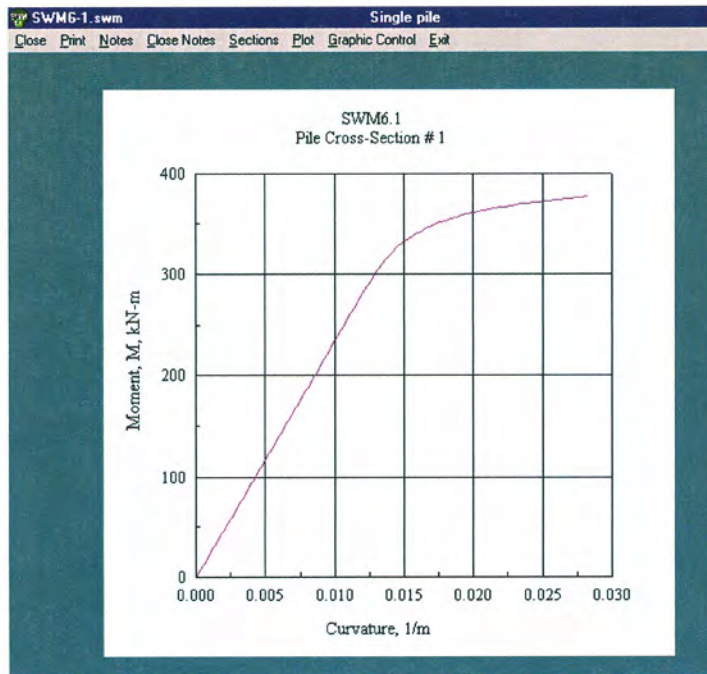

Fig. 27b Curvature vs. Moment for the Pile Cross Section(s)
- Moment – Curvature ( $M - \phi$ ) [Fig. 27b]